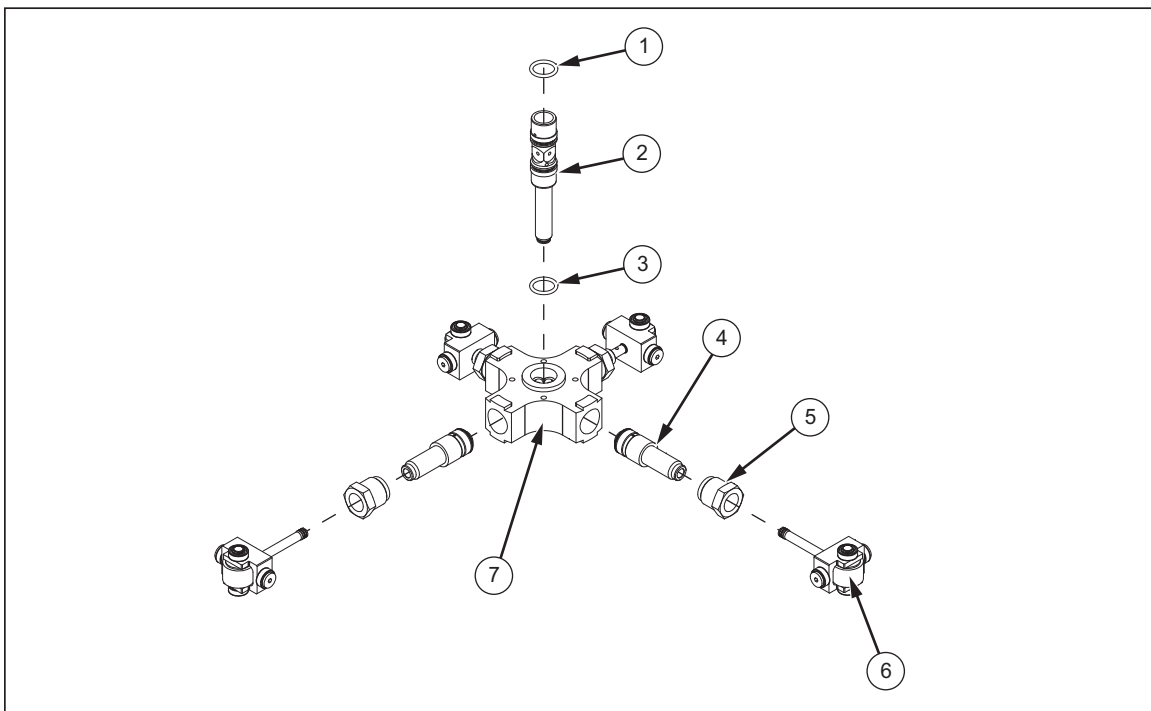

Figure 5-9. ICM Shaft Assembly
Use the following instructions and Figure 5-9 to replace the pressure port shaft (②) and seals (① and ③).
3. Disassemble the pump cam to gain access to the ICM shaft assembly. The pressure port shaft can only be removed after all four of the ICM assemblies (④) have been removed from the cylinder housing (⑦). See "ICM" on page 5-25.
4. After the ICM assemblies are all removed from the pump cam assembly, remove the pressure port shaft (②) from the cylinder housing (⑦) by pushing it out.
5. Remove the two o-rings (① and ③) and replace with new o-rings.